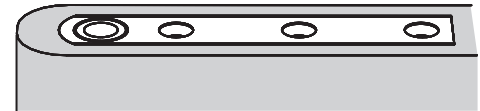

Figure 4
2. Install door portion of top pivot in door using three (3) 1/4-20 x 3/4" FHMS or #14 x 1-1/2" FHWS. (Figure 4) Refer to template PS30221.